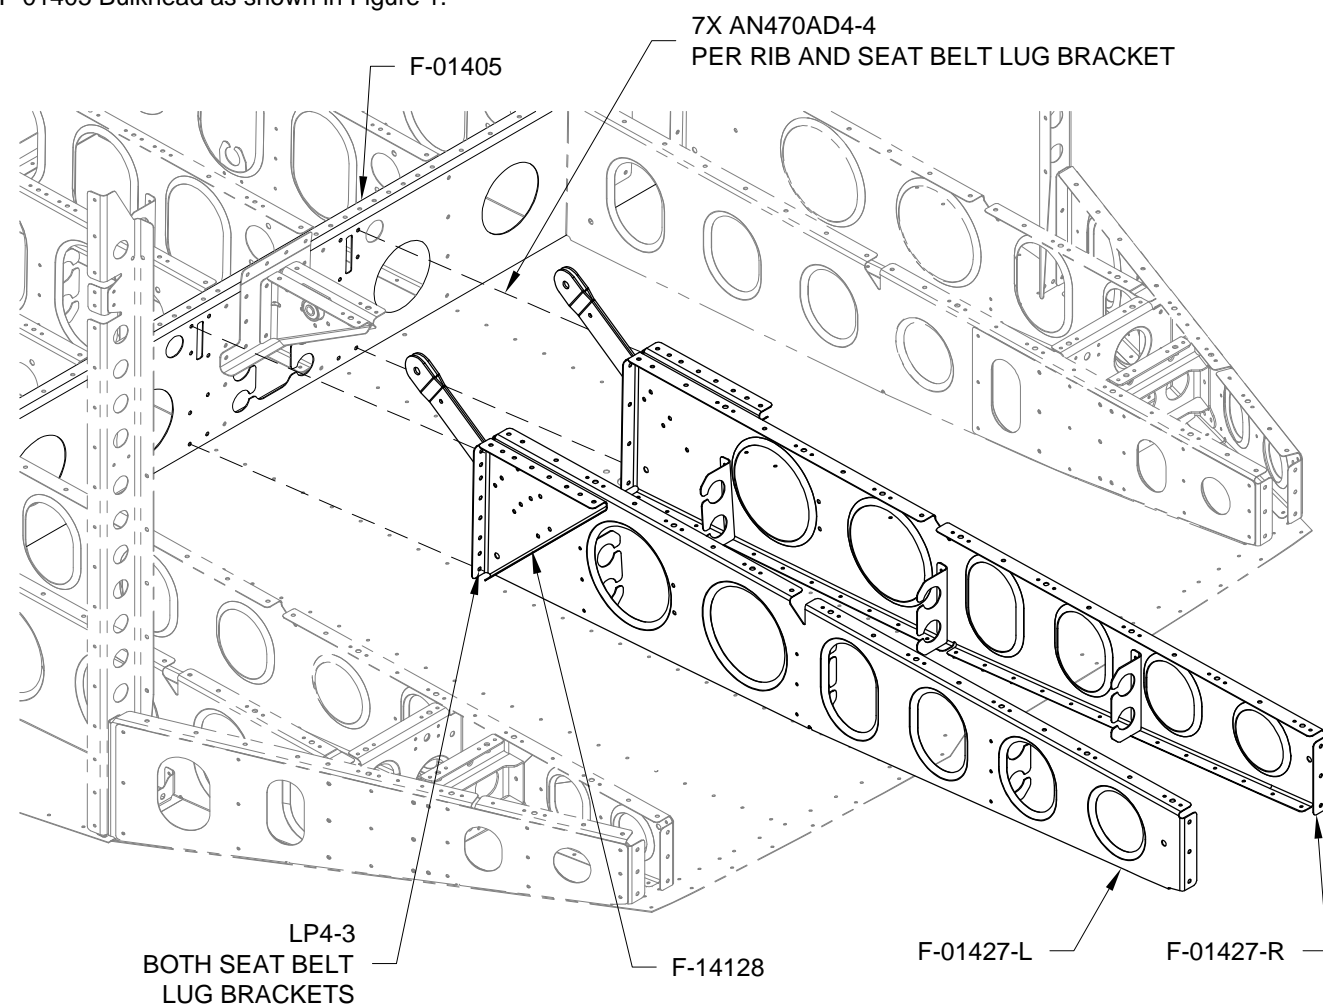

FIGURE 1: BAGGAGE RIB INSTALLATION
(Tail Dragger Only) Omit the holes for riveting the F-01484A-L & -R Cover Plates. See Page 26-14, Figure 1.
Step 4: Rivet the baggage ribs to the F-01484 Center Bottom Skin except in the "No Rivet Zone." For the location of the "No Rivet Zone" see Page 26-14, Figure 1. Begin near the F-01405 Bulkhead and proceed aft.